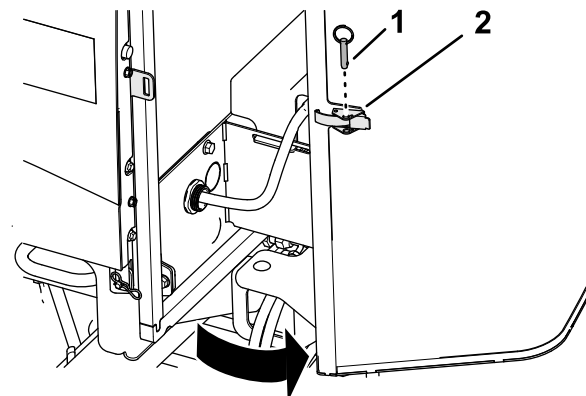

Figure 103
1. Remove the ball pin from the screen latch (Figure 103).